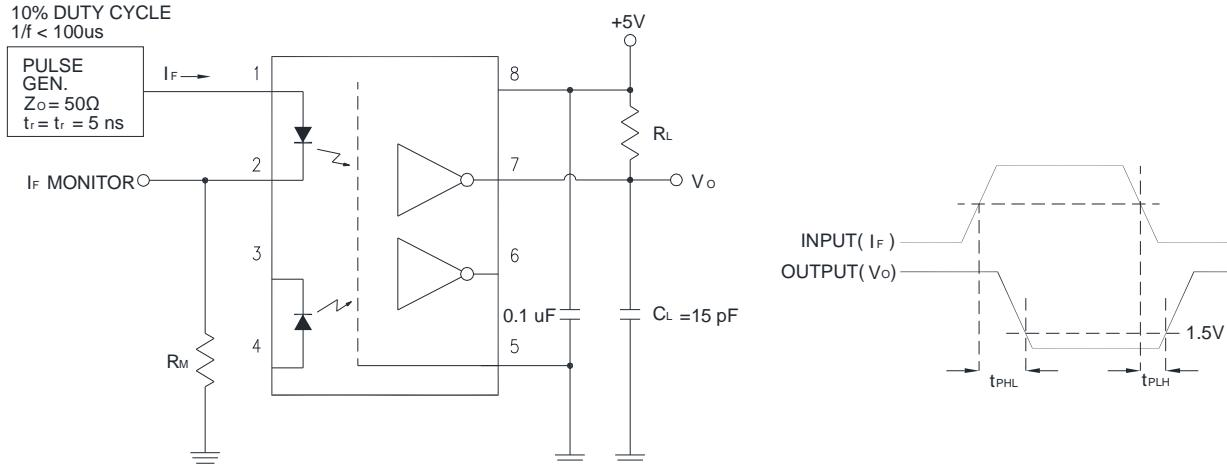

Figure 1: Test Circuit for  $t_{PHL}$  and  $t_{PLH}$
1. A 0.1 $\mu$ F or bigger bypass capacitor for VCC is needed as shown in Fig.1